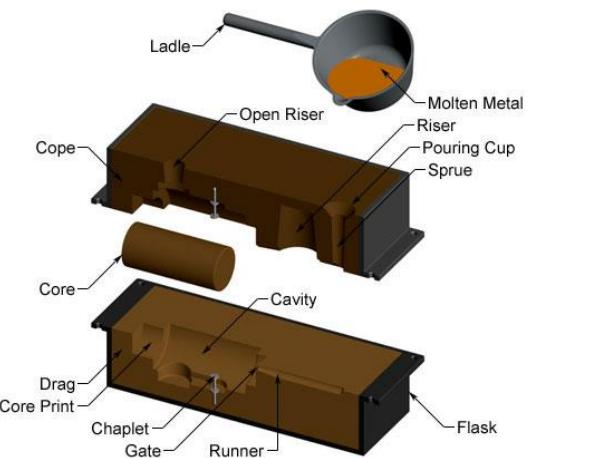

Figure 1: Mould Cast make (Custom Part 2019)
4. Outline the necessary turning operations required to create the part in Figure 1. You can assume that an appropriate piece of stock has been secured into the lathe. HINT: A numbered list is much better than a long paragraph.